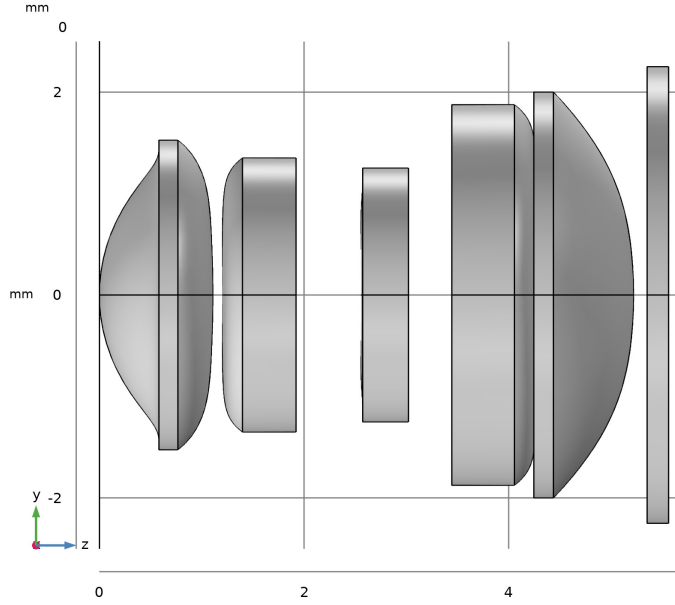
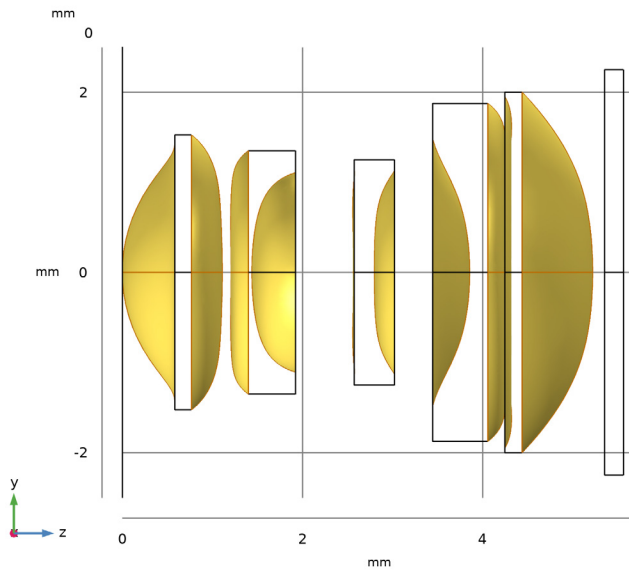
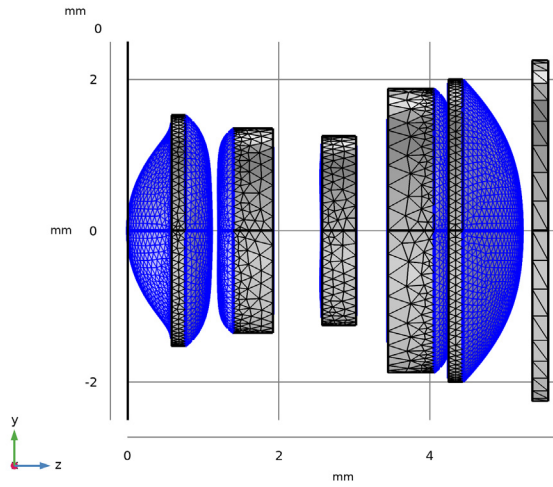
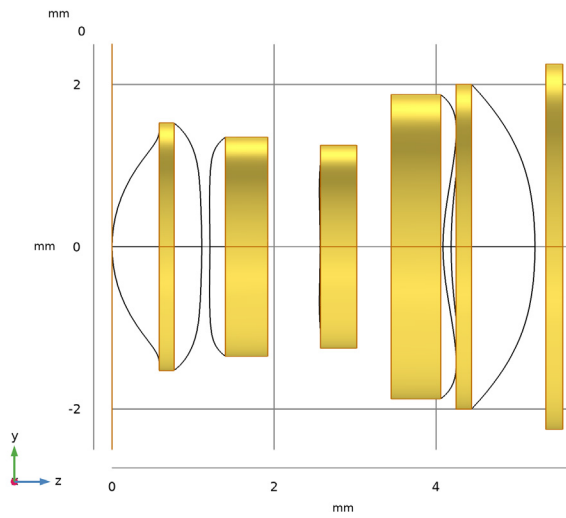

Figure 2: The Compact Camera Module geometry sequence. Instructions for creating the lens geometry can be found in the Appendix.
Figure 3: The Compact Camera Module aspheric surface cumulative selection.
Figure 4: The Compact Camera Module mesh. This view shows the aspheric surfaces on which the mesh has been refined.
Figure 5: The Compact Camera Module obstruction cumulative selection.
The detailed optical prescription is given in Table 1. Instructions for creating the lens geometry sequence (Figure 2) can be found in the Appendix — Geometry Instructions. In addition to the parameters used to define the Compact Camera Module geometry, a set of parameters are required to define the ray tracing model. These are listed in Table 2.
The ray tracing algorithm used by the Geometrical Optics interface computes the refracted ray direction based on a discretized geometry via the underlying finite element mesh. In this model, a cubic geometry shape order is used in order to reduce the discretization error. However, it is sometimes necessary to refine the mesh on certain surfaces in order to further reduce the effects of discretization. The aspheric surfaces of the Compact Camera Module have been assigned to a cumulative selection (Figure 3) on which the mesh has been refined (Figure 4).¹
The Compact Camera Module is assumed to be operating in air at room temperature. The wavelength is set to $\lambda = 587.56 \text{ nm}$ as this is the wavelength at which the refractive indices are specified. Other Geometrical Optics features include the use of cumulative selections to define obstructions (see Figure 5) and the focal surface. A hexapolar grid release is used to launch rays at each of the four field angles. Each release has 25 rings, giving a total of 1951 rays per field angle. Detailed instructions for creating this model can be found in Modeling Instructions.
- 8 Click the  **Go to ZY View** button in the **Graphics** toolbar. Orient the view to place the optical axis (z -axis) horizontal and the y -axis vertical. Compare the resulting geometry to Figure 2. The **Cumulative Selections** defining the aspheric surfaces and obstructions can be seen in Figure 3 and Figure 5 respectively.